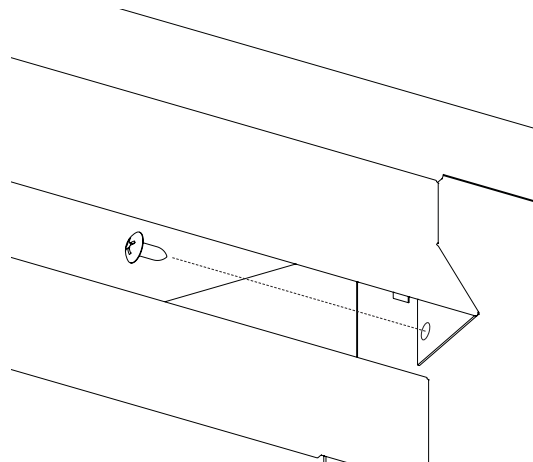

Figure 55
2. Place canopy over open area above glass as shown in Figure 55.
3. Secure canopy to fireplace using (2) screws from the hardware pack (1 screw each side).